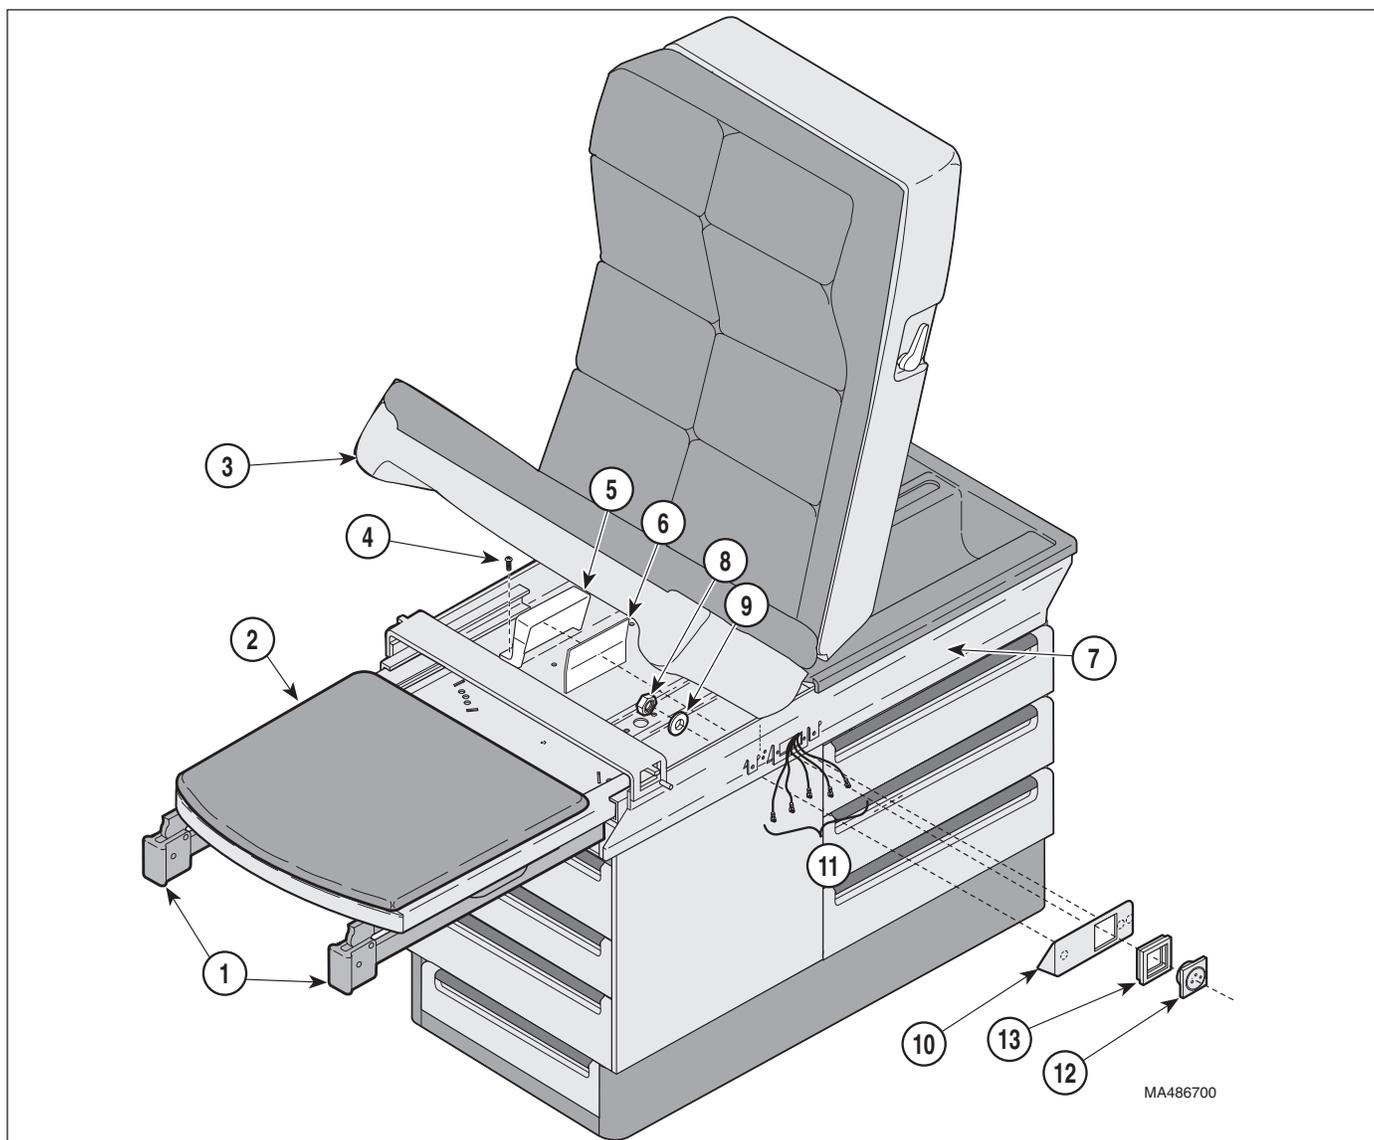

Figure 4-12. Typical Electrical Receptacle Removal / Installation (220 VAC units, UK shown)
When installing the electrical leads (13, Figure 4-12) on the receptacle (12) be sure the insulation on the leads covers sufficiently to prevent electrical shorts to the cabinet. The black leads connect to the side of the receptacle with the black screws and the white leads connect to the side with the silver screws.
- (1) Connect electrical leads and ground wire (13) to the proper terminals on the receptacle (12) (Refer to para 5.1).
- (1) Unplug table power cord from wall outlet.
- (2) Pull stirrups (1, Figure 4-12) and footrest section (2) out to full extension.
- (3) Raise seat section (3) up.
- (4) Remove two screws (4), receptacle box (5) and fishpaper insulator (6) from inside of upper wrap (7).
- (5) Remove two nuts (8), two lockwashers (9) and partially separate receptacle cover (10) from upper wrap (7).
When connecting the electrical leads and ground wire (11, Figure 4-12) to the receptacle (12), be sure the insulation on the leads covers sufficiently to prevent electrical shorts to the cabinet.
- (1) Pull electrical leads and ground wire (11) thru receptacle cover (10) and switch bezel (13) and connect to proper terminals of receptacle (12) (Refer to para 5.1).
- (2) Position receptacle (12) properly and insert thru switch bezel (13) and receptacle cover (10), pushing inward until receptacle locks into place.
- (3) Position receptacle cover (10) on upper wrap (7) and secure with two lockwashers (9) and nuts (8).